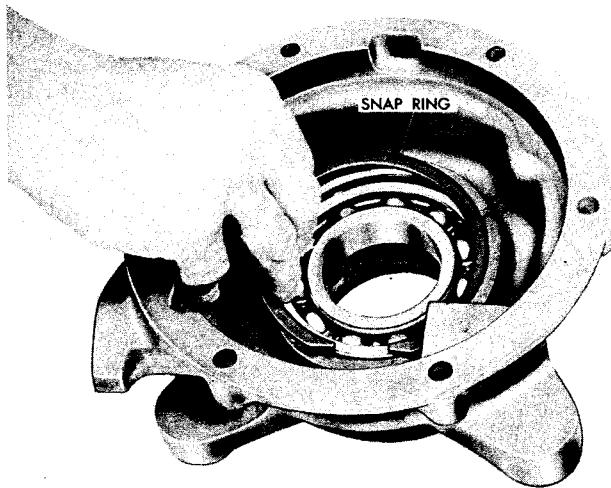

Fig XIII-5. Removing or installing snap ring from bearing retainer
(1) Remove the snap ring from the bearing retainer (fig XIII-5).
(2) Remove the single row ball bearing assembly from the bearing retainer.
(3) Do not remove the oil seal from the bearing retainer unless replacement of parts is necessary. If replacement is needed, press the seal out of the retainer.
(1) If the old oil seal was removed, install the new seal in the bearing retainer. The spring side of the seal goes toward the oil to be sealed in.
(2) Install the ball bearing assembly in the bearing retainer.
(3) Install the snap ring in the bearing retainer (fig XIII-5).